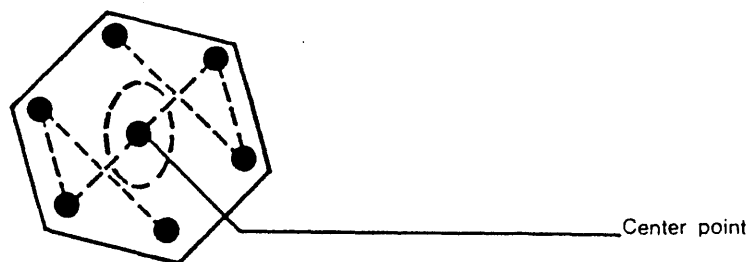

Fig. 13 Matrix Vector Diagram.
- (d) Channel 2 (Y) is connected to TP207 (pin 22 of IC201) (B – Y)
- (e) Adjust amplitude balance VR202 until the centre points of the two wave forms bring together (Fig.13)
- (f) Adjust T205 until all other points of two waveforms bring together (Fig.13)